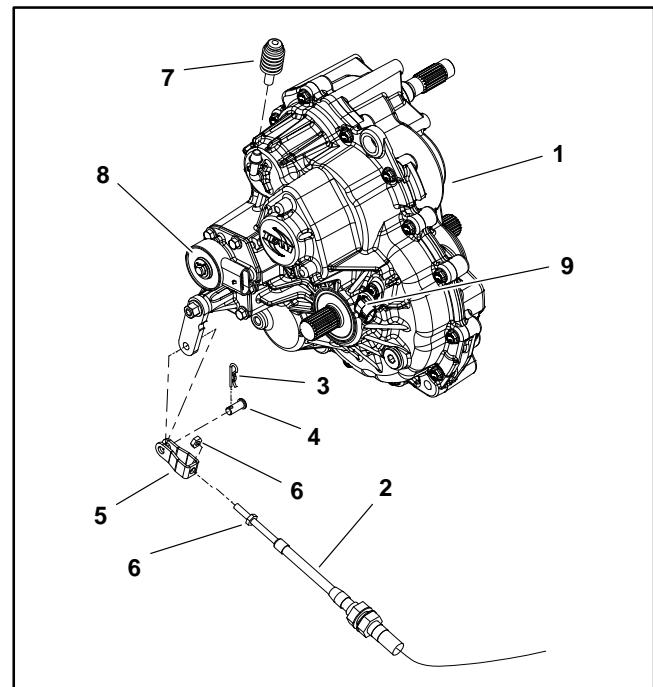
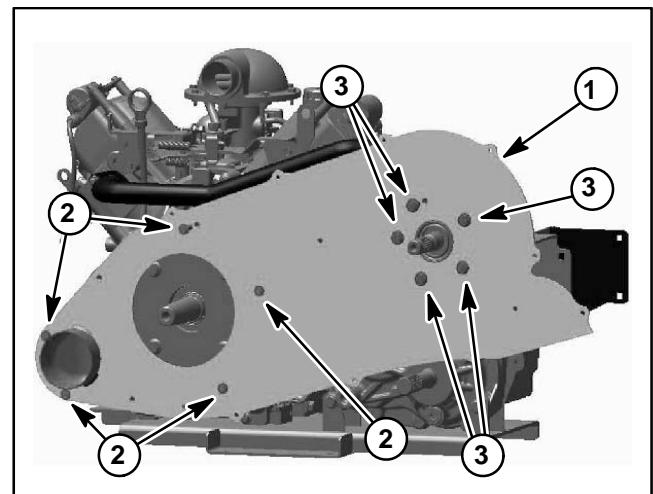

Figure 53
Figure 54
5. Remove spanner plate from engine and transmission (Fig. 54):
- A. Remove five (5) washer head screws that secure spanner plate to air inlet housing on engine.
- B. Remove five (5) flange head that secure plate to transmission.
6. Disconnect wire harness connectors from rotary switch and speed sensor on front of transmission (Fig. 53).
7. Remove hairpin and clevis pin that secure shift cable to transmission lever. Remove shift cable clevis from lever (Fig. 53).
9. Remove two (2) flange head screws and flange nuts that secure transmission to tabs on engine/transmission mount.
5. Secure the transmission in place by fully tightening the two (2) flange nuts and flange head screws.
7. Install shift cable clevis to transmission lever and secure with clevis pin and hairpin (Fig. 53).
8. Connect wire harness connectors to rotary switch and speed sensor on front of transmission (Fig. 53).